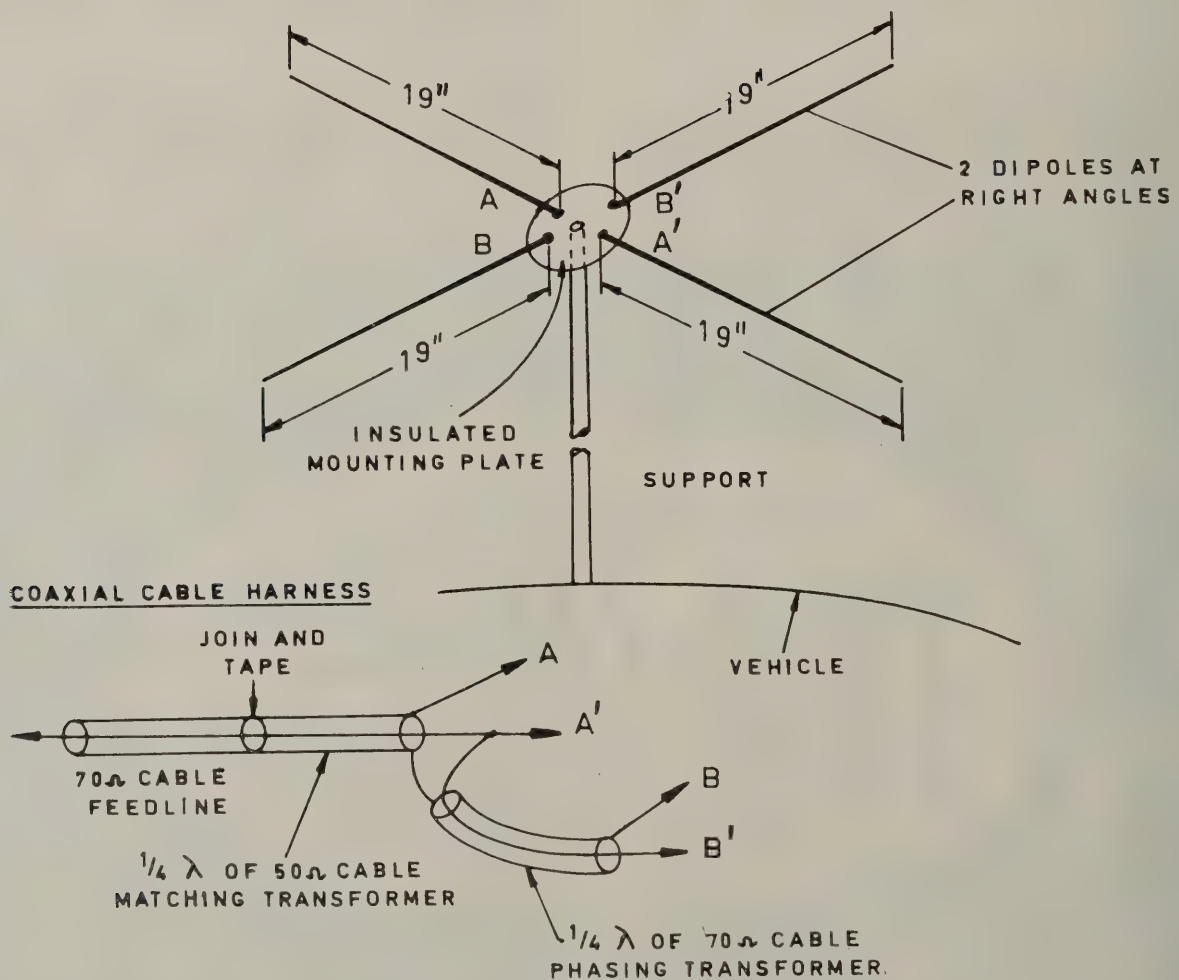

FIG. 4
The profiles are drawn on a special form of graph paper (see Figs. 4, 5 and 6) on which height above sea-level is shown by the vertical scale and distance from the transmitter by the curved horizontal scale. The curvature represents the effective curvature of the earth and hence, by taking atmospheric refraction into consideration, enables the wave paths to be drawn on the profile paper much more conveniently as straight instead of curved lines. For the curvature to be represented correctly, the two scales and the actual curvature of the horizontal axis must bear a particular relationship. In practice the height is greatly exaggerated. Since median (time) values of field strength are almost invariably required, the degree of refraction embodied in the curvature of the axis is that corresponding to a "standard atmosphere," i.e.  $k = 4$  over  $3$ . The profile paper is, therefore, referred to as "4 over 3 Earth Paper."
Ground profiles drawn over the distances encountered within broadcast service areas can conveniently be grouped into three basic categories. A simple example of each is illustrated in Figs. 4, 5 and 6. The wave path is shown between the transmitting aerial, T, and a typical receiving site, R, in a town 30 km away.
- (i) Obstructed path (Fig. 4).
The majority of profile shapes are amenable to assessment, and a close study will reveal any topographical features capable of causing the signal to be attenuated, either by diffraction or by reflection and wave cancellation. The two most important features to look for are, first, hills which obstruct or nearly obstruct the line of sight between the centre of the transmitting aerial and the receiver (Fig. 4) and, secondly, any area which, by satisfying the requirements already outlined for smooth terrain, can give rise to a coherent reflection (Fig. 5).
#### Obstructed Paths (Fig. 4)